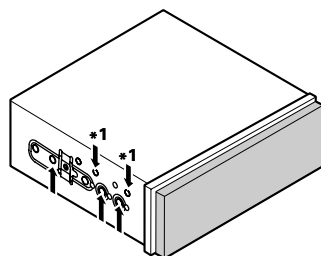

Fig. 18
- Fastening the unit to the factory radio mounting bracket. (Fig. 18) (Fig. 19) (Fig. 20)